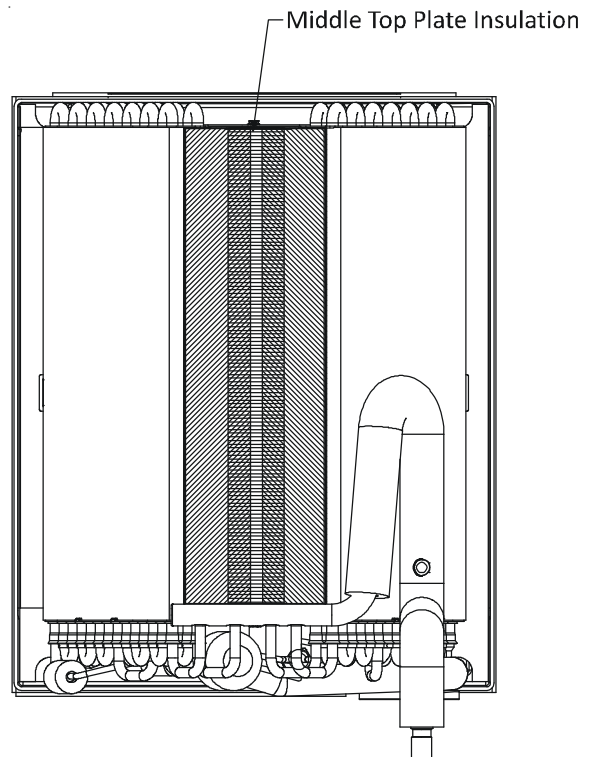

Figure 10 - Middle Top Plate Insulation
4. The last piece of insulation tape will be applied in the middle of the top plate overlapping the other pieces of insulation. See Figure 10.